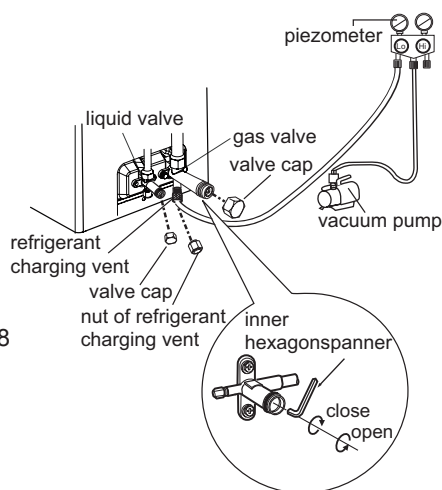

Fig.28
6. Tighten the screw caps of valves and refrigerant charging vent. (As show in Fig.28)